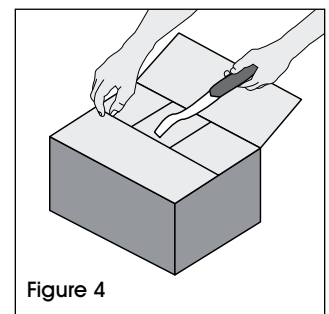

Figure 4
4. Fold and hold the box flaps closed and start inflation. (See Figure 4)